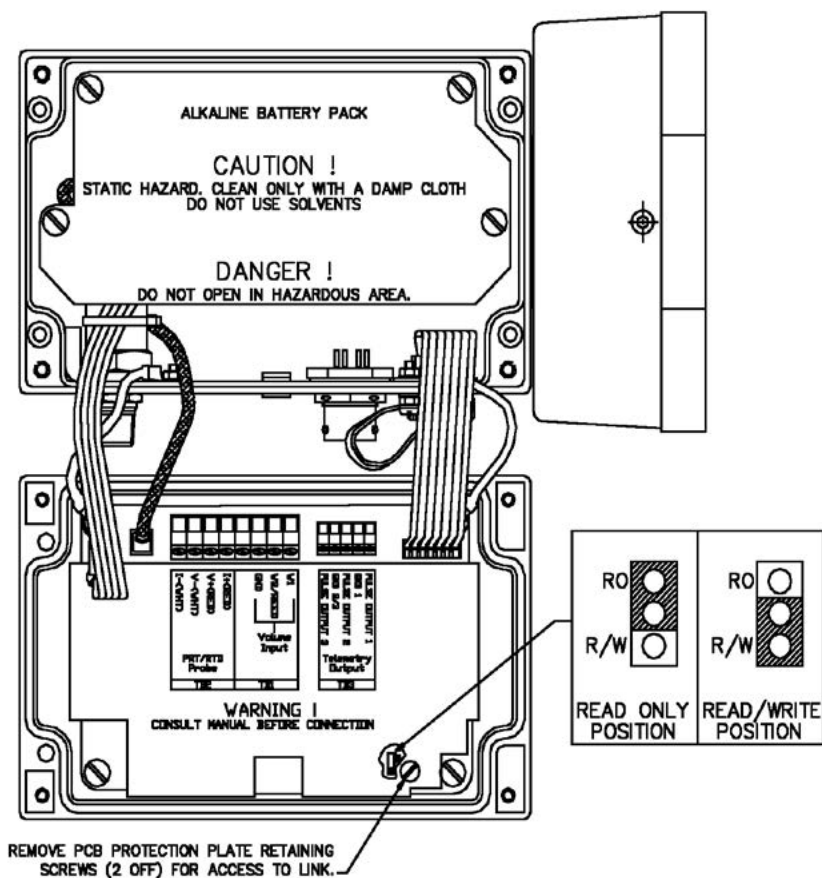

Figure 3 – Setting the Weights and Measure Link (Hardware Link).
5. Identify the Read/Write protection link; remove from the Read Only position and replace in the Read/Write position. Refer to Figure 3 (Setting the Weights and Measures Link).